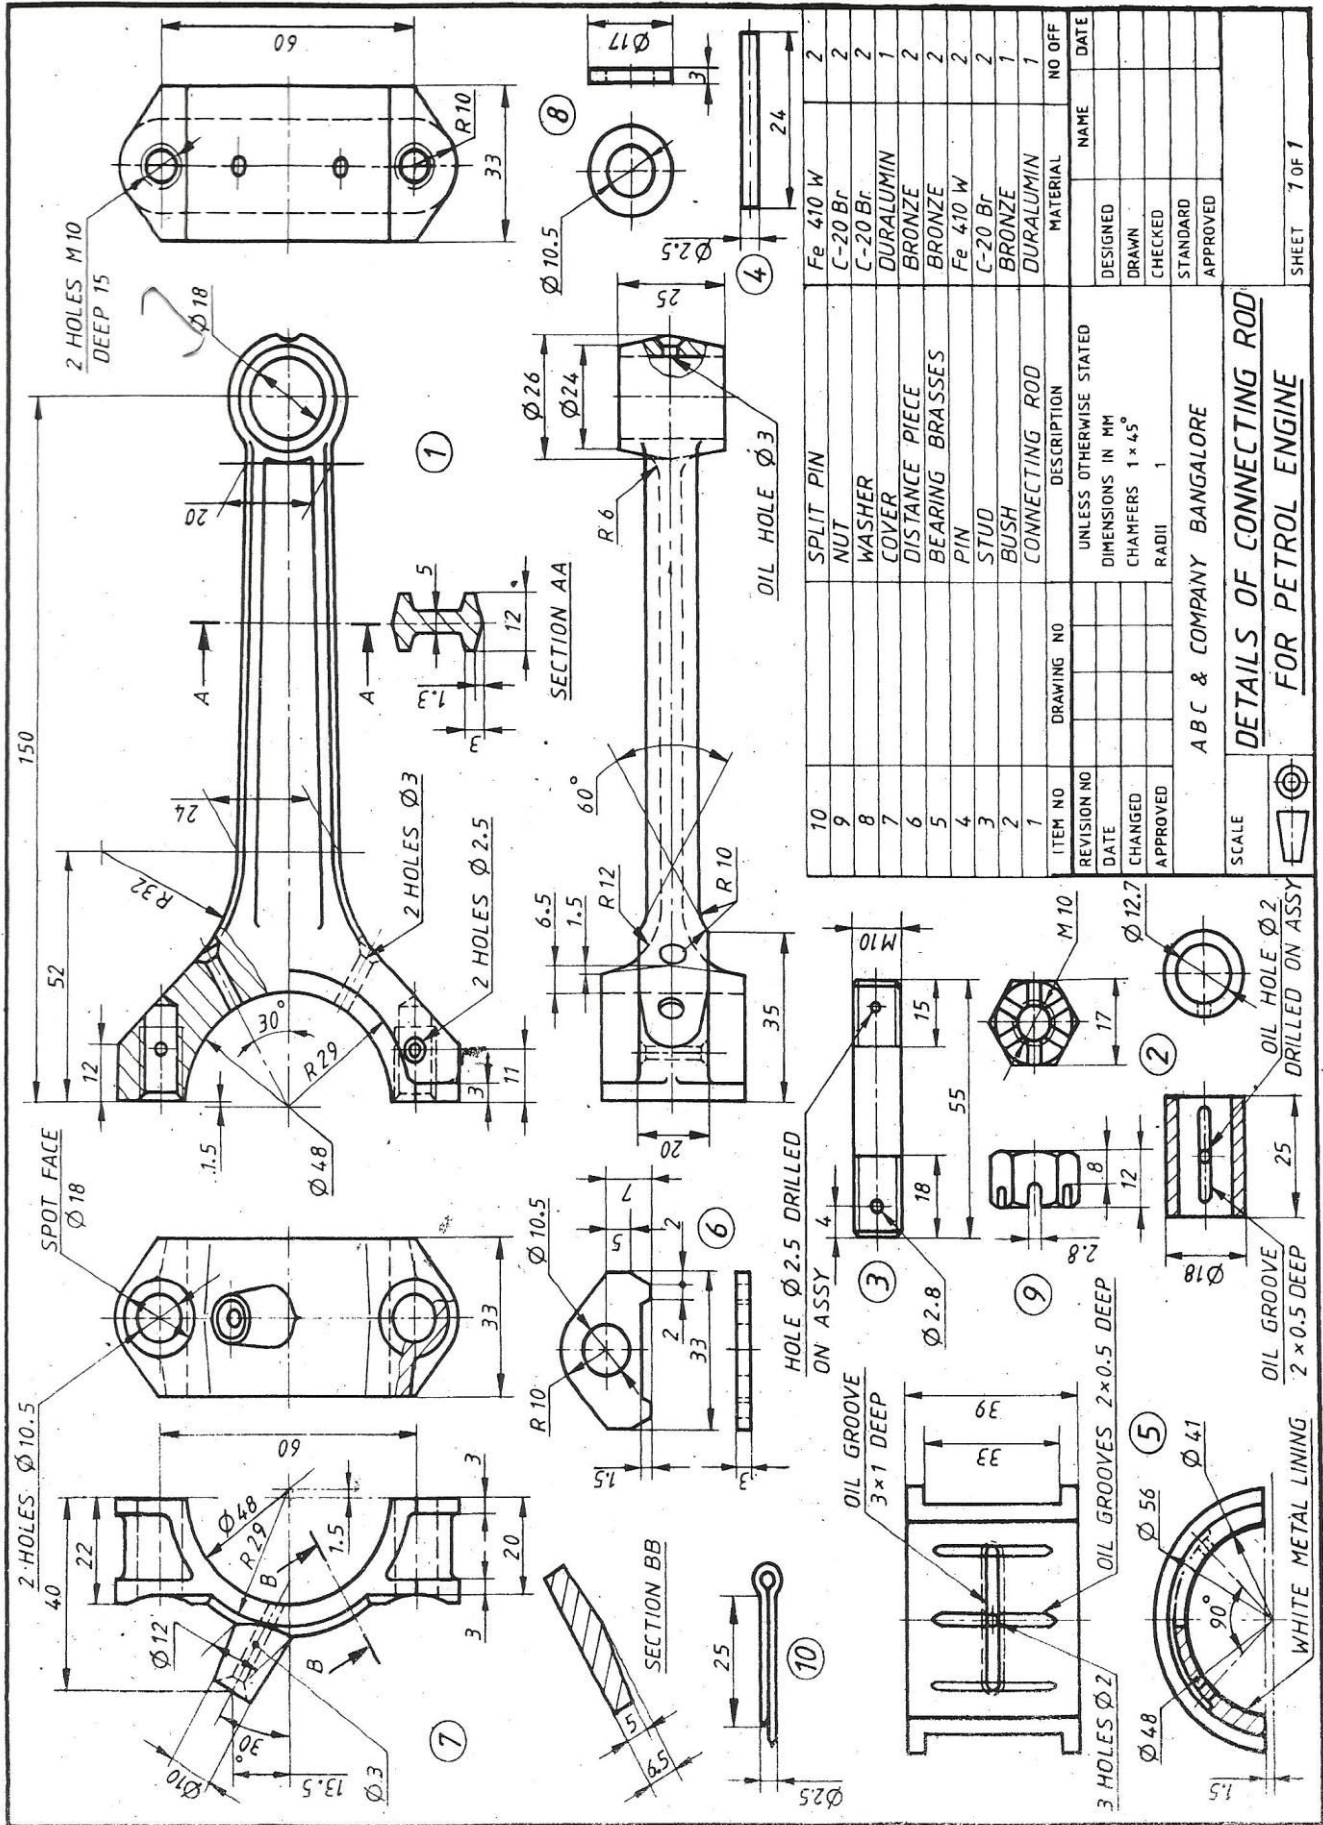

Figure 2 : Details of Connecting Rod
4. Figure 2 shows the details of a “**Connecting Rod**”. Assemble the parts show the following views.